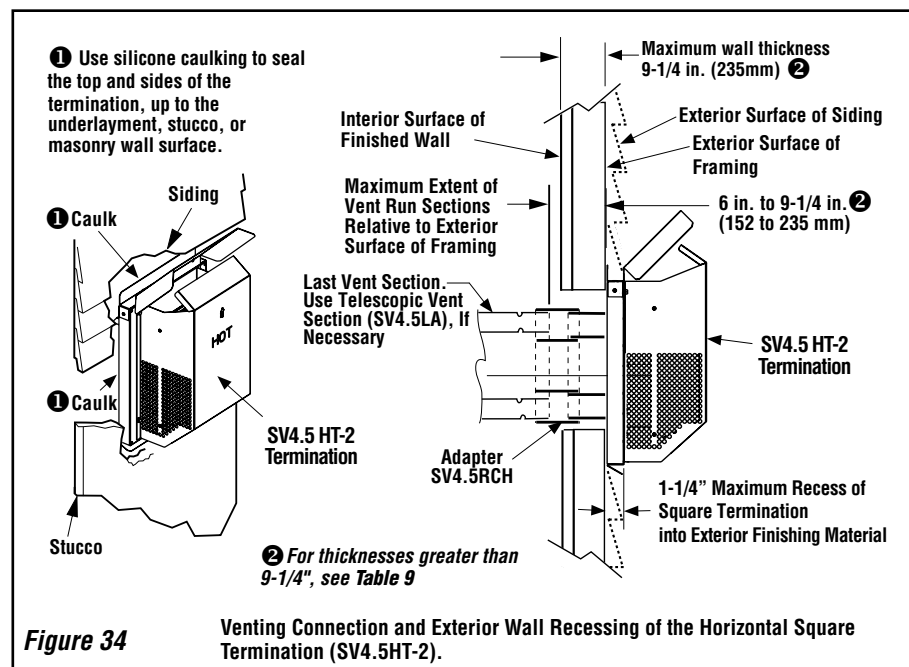

Figure 34
J. Assemble vent run to exterior wall - If not previously measured, locate the center of the vent at the exterior wall. Prepare an opening as described in **Step B**. Assemble the vent system to point where the terminus of the last section is located relative to the exterior surface to which the termination is to be attached as shown in **Figure 34**.
If the terminus of the last section is not within this distance, use the **telescopic vent section SV4.5LA**, as the last vent section. For wall thicknesses greater than that shown in **Figure 34**, refer to **Table 9 on Page 21**. This Table lists the additional venting components needed (in addition to the termination and adapter) for a particular range of wall thicknesses.
For the last step, from outside the exterior wall, slide the collars of the termination onto the adapter until the termination seats against the exterior wall surface to which it will be attached. Orient the housing of the termination with the arrow pointed upwards. Secure the termination to the exterior wall. **The horizontal termination must not be recessed into the exterior wall or siding** by more than the 1-1/4" (32 mm) as shown in **Figure 34**.
Table 9 *Note: See Figure 34 showing wall thickness range when using SV4.5HT-2 termination kit only.*